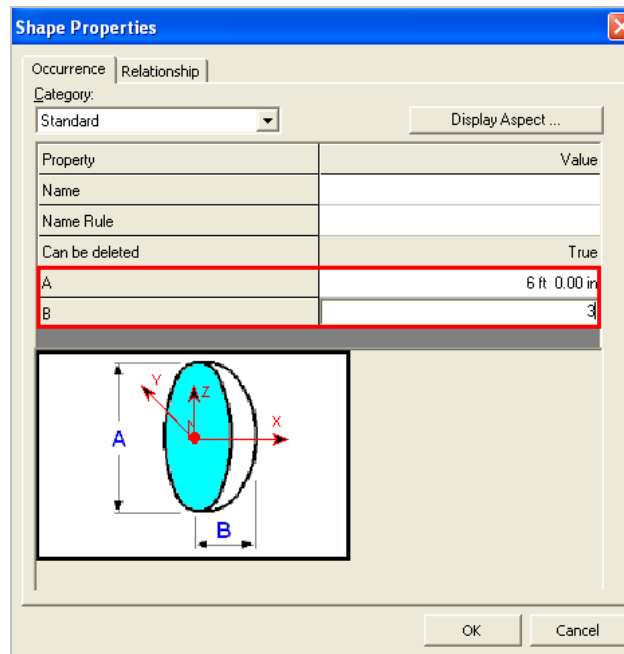

Figure 27: The Shape Property Values of First Cap
25. To place the first cap of the equipment object, click the **Place Shape** button on the vertical toolbar and select the **Semi Elliptical Head** shape. In the **Shape Properties** dialog box enter the specifications for dimensions as **6 ft** for **A** and **3 ft** for **B**. Figure 27 shows the required dimensions keyed in the **Shape Properties** dialog box.